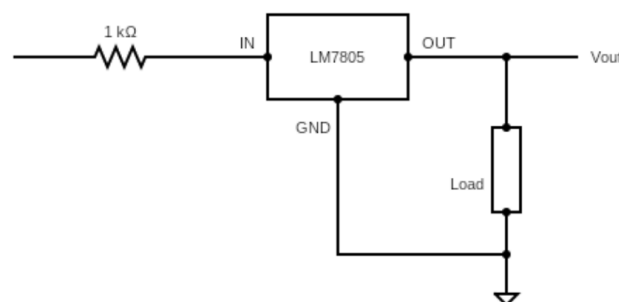

Figure 4: LM7805 Load Regulation
1. Design and build the circuit given in fig 4.